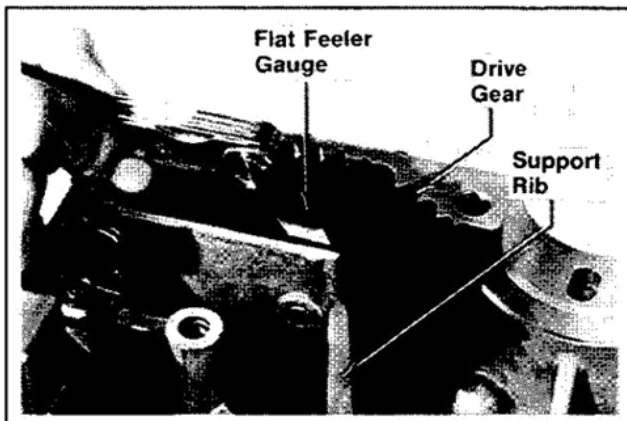

Figure 11-2. Measuring Oil Pump Drive Gear End Play.
2. Measure pump drive gear end play with a flat feeler gauge. Refer to Figure 11-2. Recommended end play is $.010/.029$ ". Add one (1) additional shim spacer, if necessary, to bring end play within range.